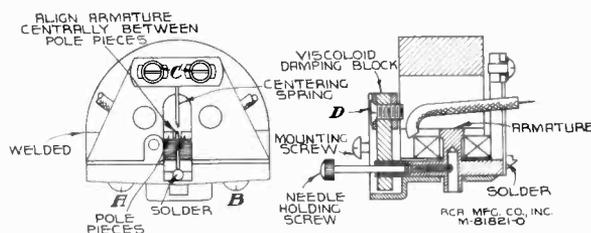

Figure 2—Details of Pickup
**Centering Armature.**—Refer to figure 2 showing the pickup inner structure. The armature is shown in its proper relation to the magnet pole pieces, i. e., exactly centered. When-